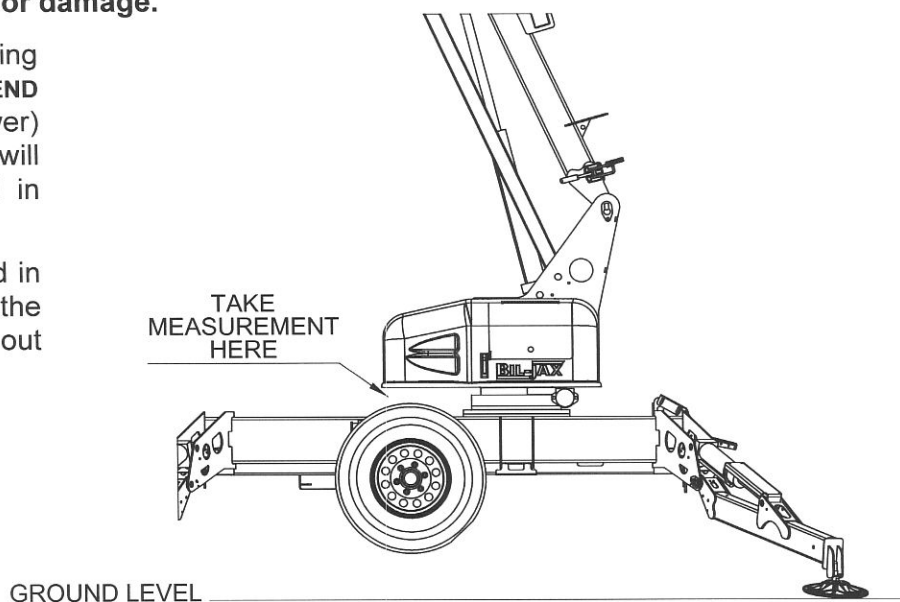

Figure 4-6. Machine Position for Slew Ring Measurement
- Place a 175 lb (65 kg) load in the platform and raise the **PRIMARY** boom to the full out position. Refer to Figure 4-6.